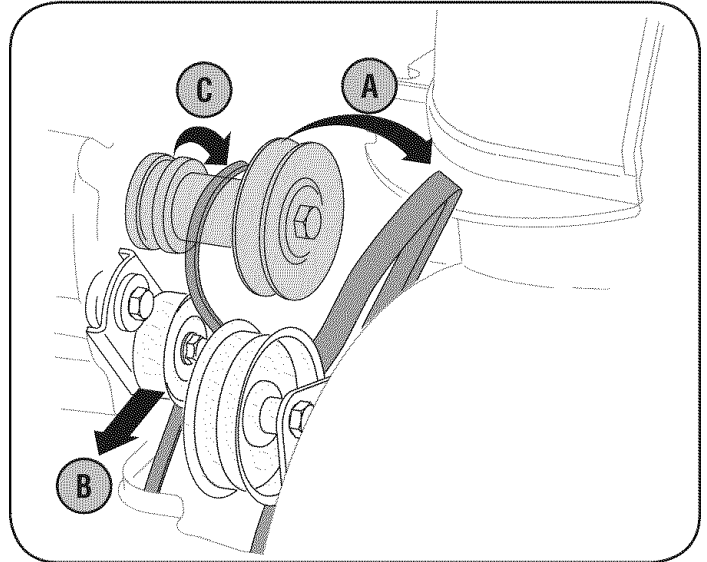

Figure 26
- Remove the belt as follows. Refer to Figure 26.